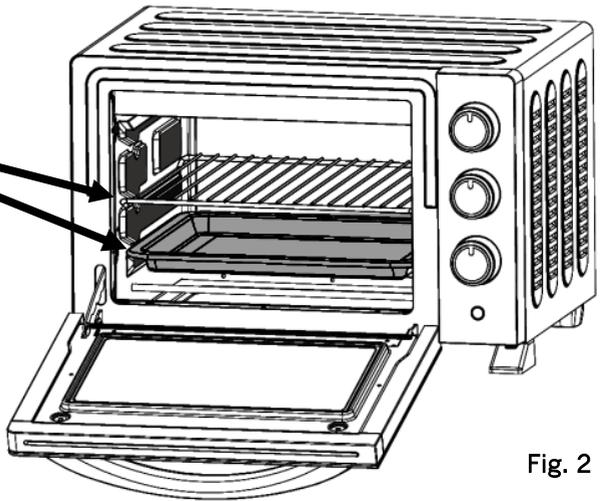

Fig. 2
- Where to fit the baking tray and rack – see fig. 2
- Slide the grill rack and / or baking tray onto the rack supports (fig. 2)
- If placing food directly onto the grill rack, fit the baking tray into the lower oven rack rest to act as a drip / crumb tray (figs 2 & 6).